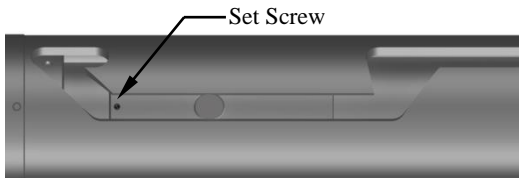

Fig. 6
L-2.16) Screw set screws (33) into J-pin bottom sub (23). Move J-body (20) as needed (Fig. 6).